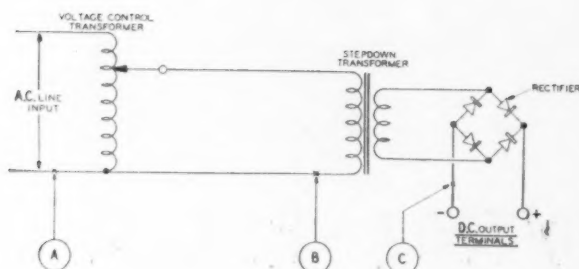

Fig. 32
This can be seen in the simplified schematic (Fig. 32), in which Point (A) is the logical location for an ON-OFF circuit breaker switch.